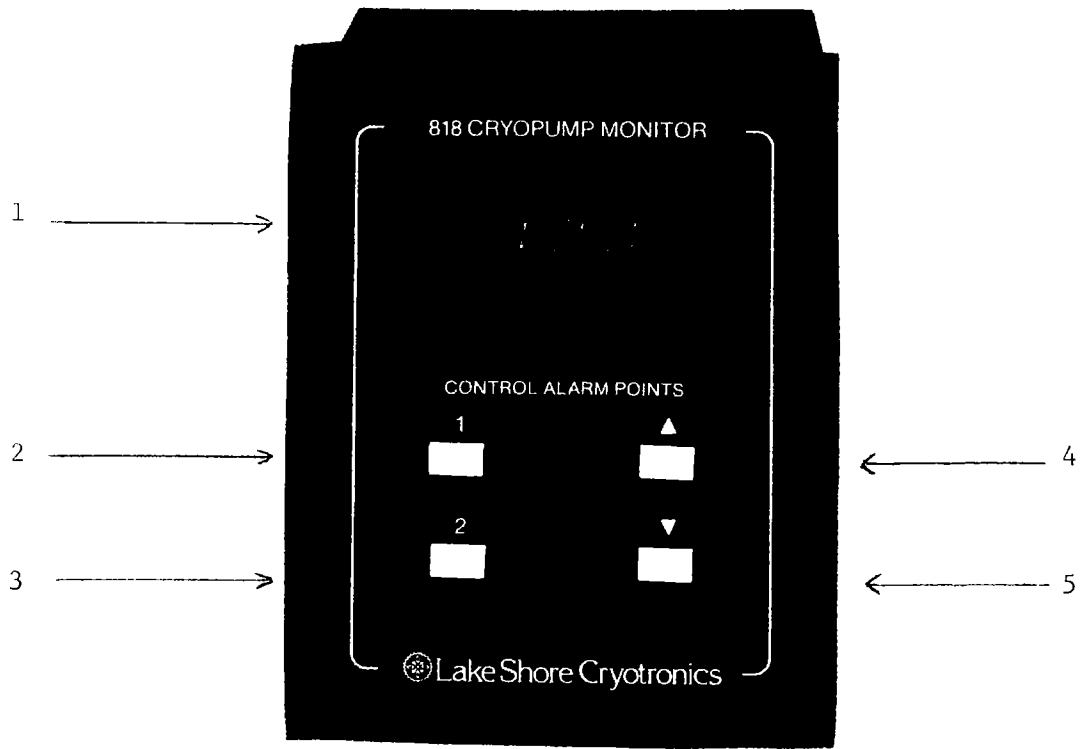

FIGURE 3.1 Typical Front Panel for Model 817 and 818
The operating controls, and indicators are shown in Figures 3.1, 3.2, 3.3, and 3.4, and are keyed in Table 3.1.
3. Use the up/down arrows to count to new curve number. (Refer to Figure 3.1) NOTE: The unit will only count those curves available within the unit.
2. Press the alarm function key for the proper alarm to be updated. (Refer to Figure 3.1) Notice that the display now indicates the alarm set point value.